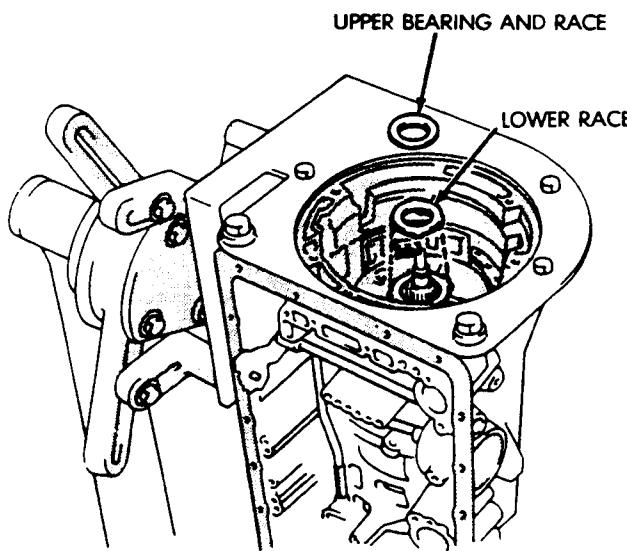

Fig. 23 Remove Overdrive Support Bearing/Races
(31) Remove overdrive support lower race (43) and upper bearing and race assembly (Fig. 23).